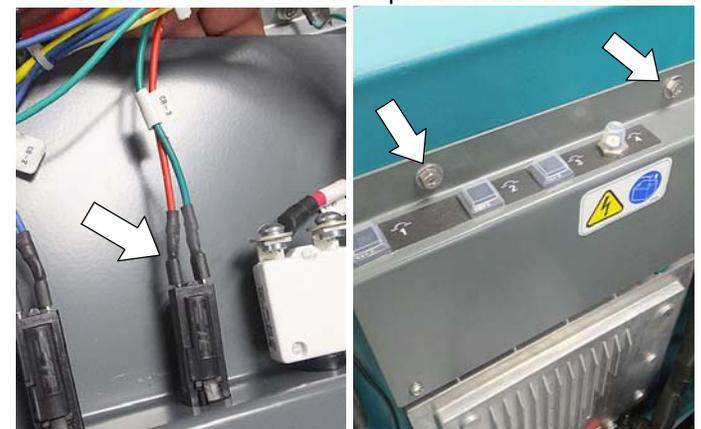

Fig. 18
- Connect the factory installed CB-3 green and red wires to the 15A circuit breaker as shown (Figure 18). Refasten the circuit breaker panel to the machine.